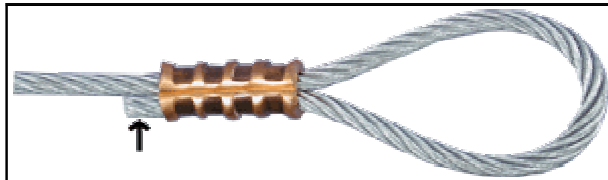

FIGURE 3
4. FINISHED SLEEVE IS SHOWN IN FIGURE 3. ENSURE SLEEVES HAVE BEEN COMPRESSED THE PROPER NUMBER OF TIMES. (SIZE 48 = 3 TIMES).